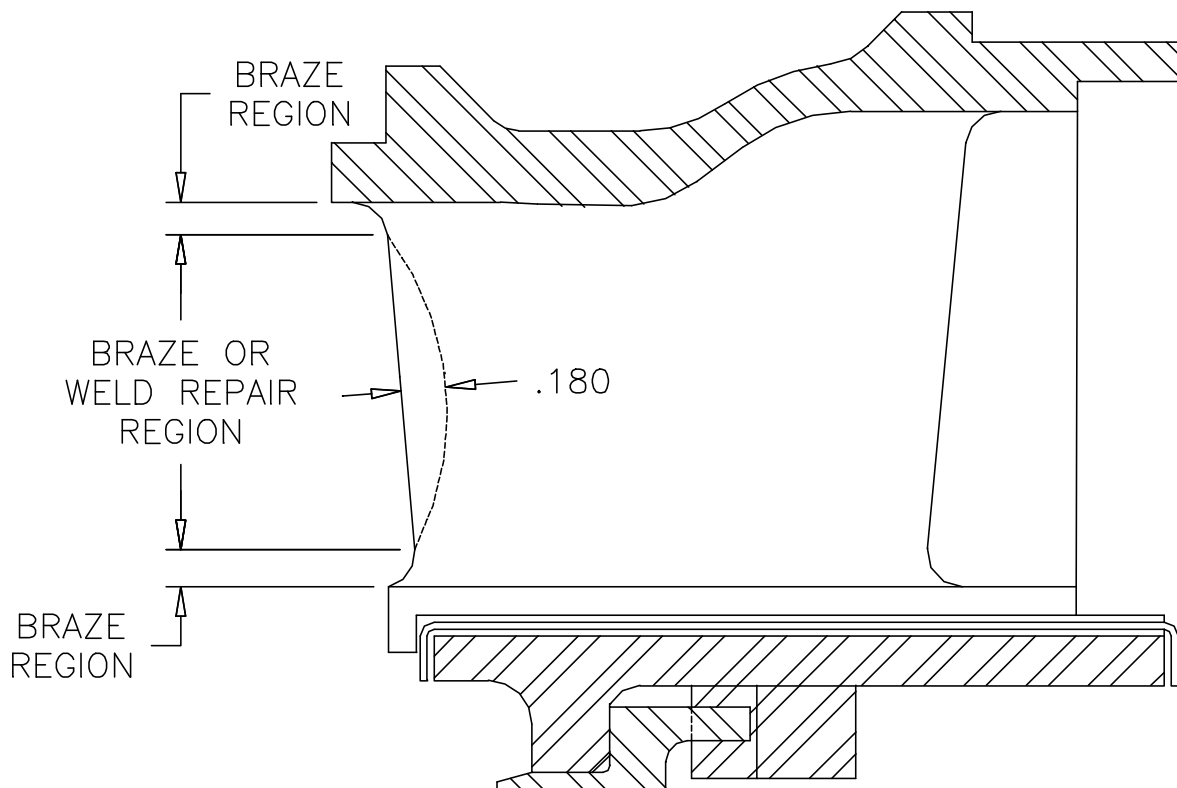

FIGURE 6
3.0 Weld Repair of Airfoils: Welding can be used to replace missing material or repair damage such as cracks at airfoil trailing edges. Blend areas to be welded with coated abrasives and/or a carbide burr. Remove all sharp edges, cracks, and surface contamination; such as oxides (from engine service). Material removal should not exceed a depth of .180" from TE of airfoil. Material removal should appear as a gradual arc with a width to depth ratio of 2:1, see Figure 6. Material removal and welding should not be attempted within .050 of fillet between airfoils and inner / outer bands. Fillet cracks should be repaired via furnace braze, see Section 5.